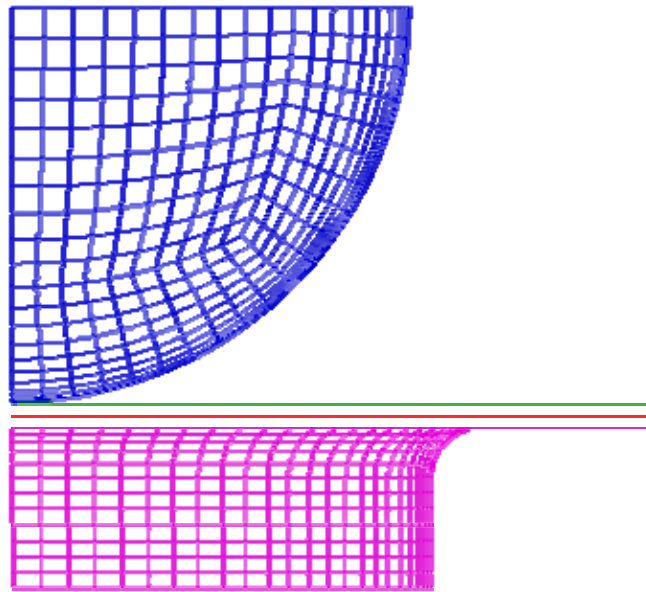

Figure 2.33 The relative position of tools and blank after positioning
5. Click  and  on the **Icon bar**, and then the relative position of tools and blanks during die sinking will be displayed on the screen. See figure 2.33.